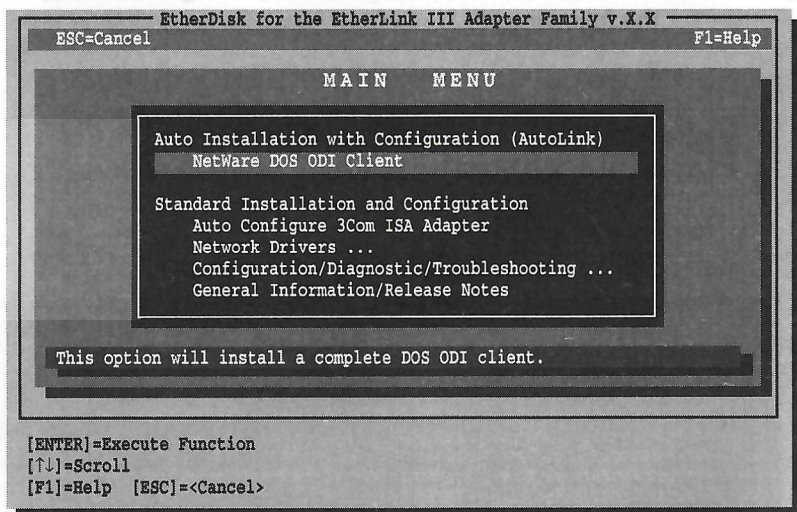

Figure 3-2 Main Menu
- 6 When the main menu screen shown in Figure 3-2 appears, select NetWare DOS ODI Client, and press [Enter].
- 2 When the main menu screen shown in Figure 3-2 appears, select Auto Configure 3Com ISA Adapter and press [Enter].**
- 1** When the main menu screen shown in Figure 3-2 appears, select Configuration/Diagnostic/Troubleshooting and press [Enter].
- 1 When the main menu screen shown in Figure 3-2 appears, select Configuration/Diagnostic/Troubleshooting and press [Enter].